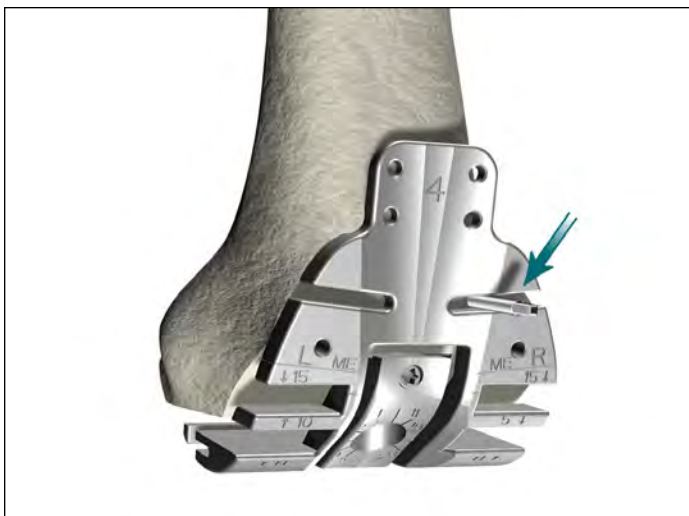

Figure 58
- Place an initial fixation pin in the middle of the medial slot on the anterior flange of the TCG (**Figure 58**). Pinning the medial slot will fix the proximal/distal position while allowing for slight internal and external rotation of the TCG.